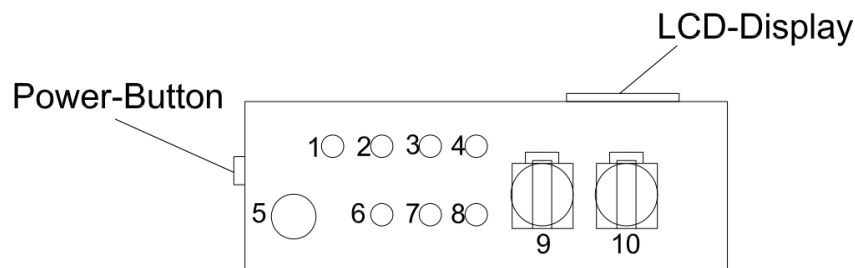

Figure 14: electrical connections at the bottom side of the control unit
- Insert alarm cable through corresponding cable connection at the bottom side of the control unit (please see Figure 14).